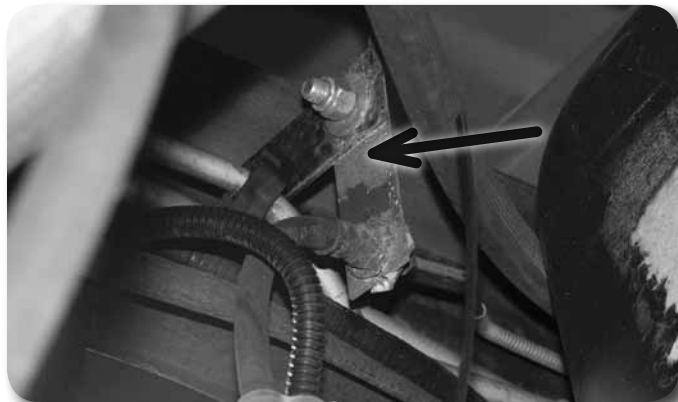

Figure 25
17. Install the new brake line relocation bracket in the factory bracket with the large slotted hole pointing down. Fasten with a 3/8" x 1" bolt, nut, and washers and tighten securely. **Figure 25**